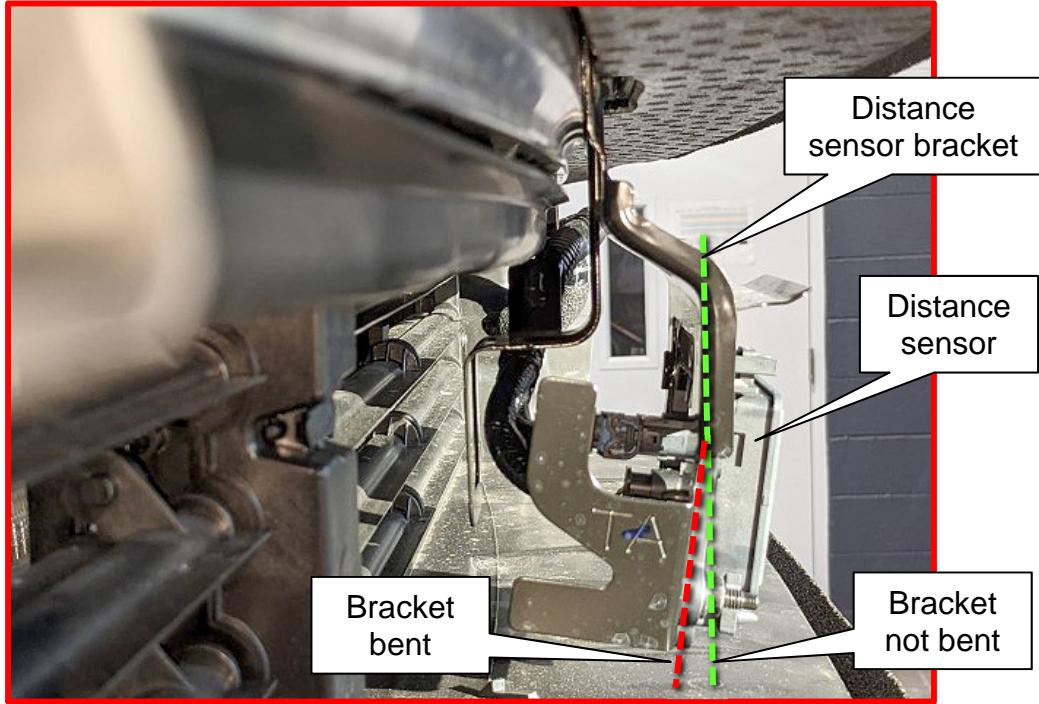
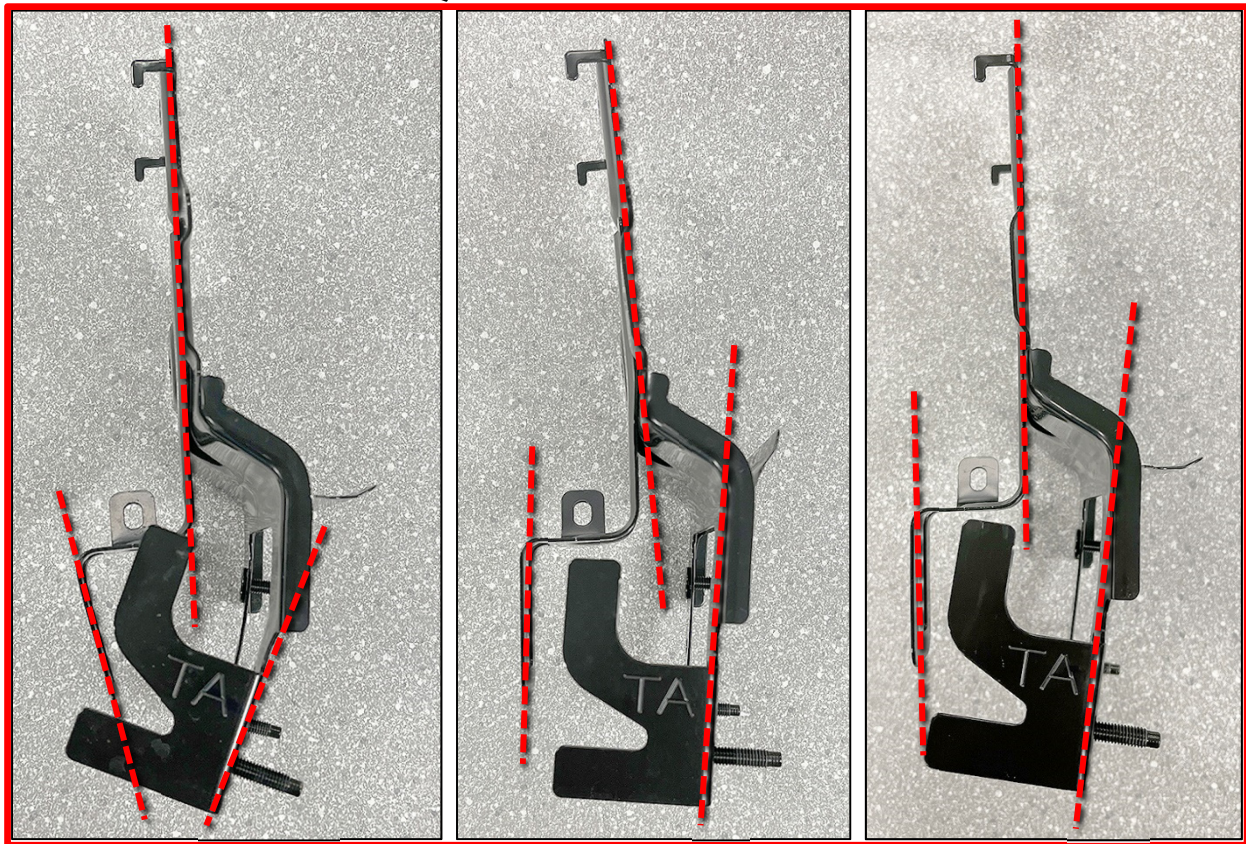

Figure 5
Figure 6
**HINT:** Minor impacts to the center of the front bumper fascia can bend the distance sensor bracket (Figure 5 and Figure 6 on page 6).